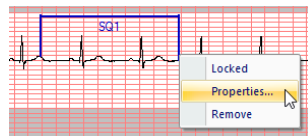

Figure 382 – Marker context menu
3. To edit the measurement properties, select the **Properties...** item in the displayed context menu (see Figure 382).